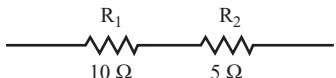

FIGURE 1.3
- 9 You can connect resistors in series. Figure 1.3 shows two resistors in series.